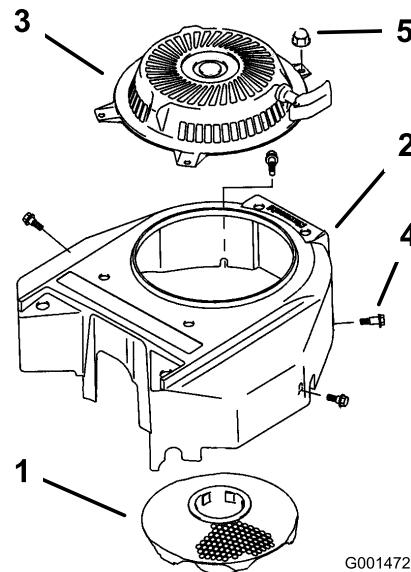

Figure 37
3. Remove the air intake screen, recoil starter and fan housing (Figure 37).
5. Install air intake screen, recoil starter and fan housing (Figure 37).